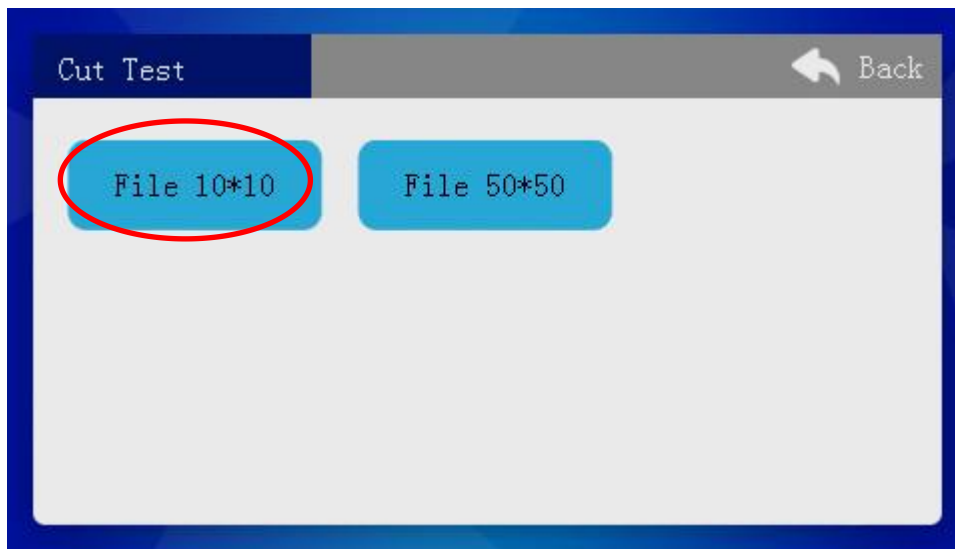

figure 2
1. Through the operation screen [setting] into [Cut Test] , select "File 10 \* 10" internal storage file for knife and pen offset test. (through the "knife and pen settings" interface, select milling cutter, pen, cutter offset test ) figure 2